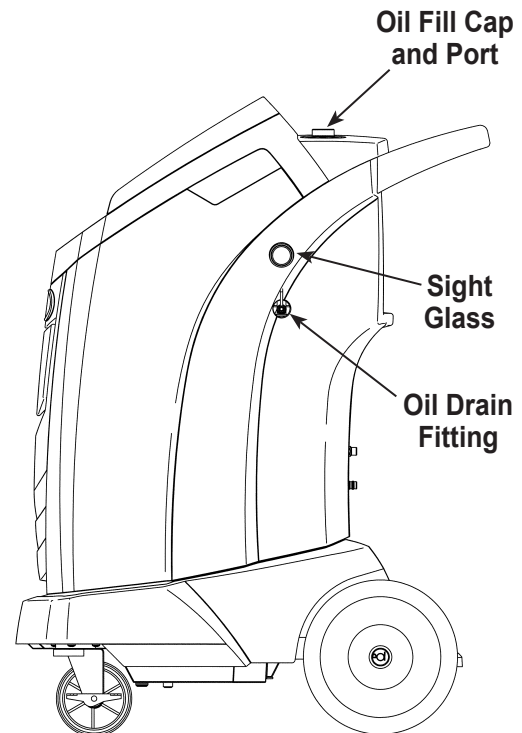

Figure 25
3. After the compressor stops, **slowly** open the oil fill cap to verify there is no pressure in the machine. Then carefully remove the cap. See Figure 25.